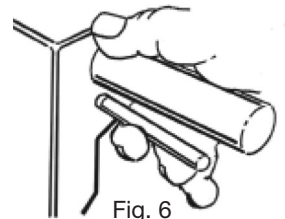

Fig. 6
5. The safety "lock-out" lever is located underneath the right side handle grip and switch lever. To unlock the "lock-out" lever, use your right hand forefinger to press the lever down toward the back of the switch box (Fig. 6).